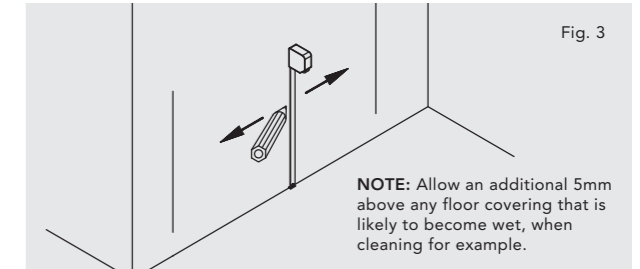

Fig. 3
- Referring to the supplied template, measure and mark the correct distance from the floor allowing for any floor covering (see fig. 3).